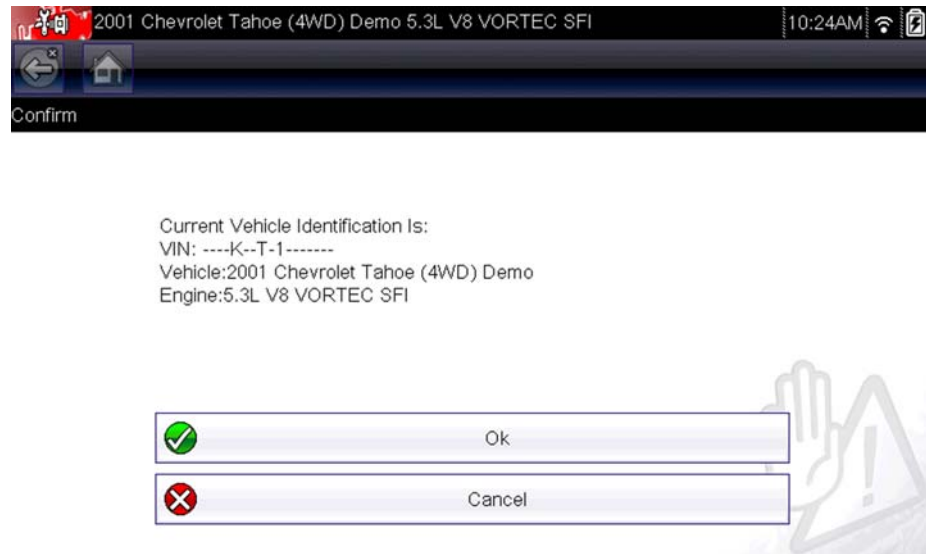

Figure 4-2 Vehicle confirmation screen
- a. Instant ID may occur, as indicated by an audible "beep" sounded within 5 seconds after the diagnostic tool turns on. Select the **Scanner** icon, then wait for the vehicle confirmation screen (Figure 4-2) and select **OK** to continue. Then proceed to **step 6**. See Instant ID, on page 24, for additional information about this function.
- b2.) Once the vehicle has been identified, the vehicle confirmation screen displays (Figure 4-2). If the vehicle information is correct, select **OK** to continue, then proceed to step 6.